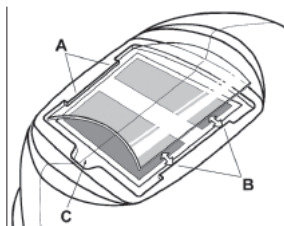

Figure 1
**Replacing Front Cover Lens:** Replace the front cover lens if it is damaged – cracked, soiled or pitted. Place your finger or thumb into recess (C) at the bottom edge of the cover lens and flex the lens upwards until it releases from the edges marked A and B. (Refer to figure 1).